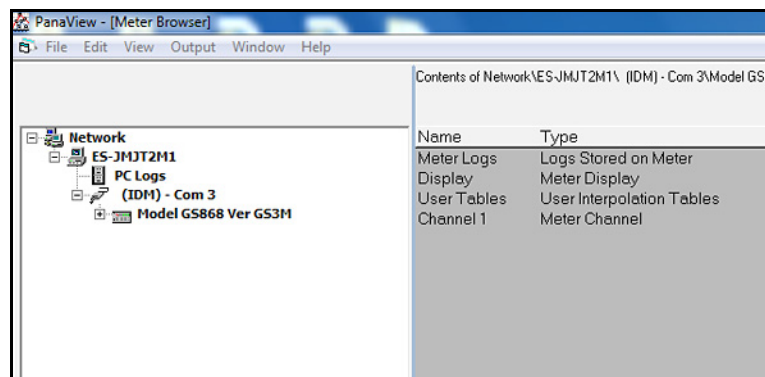

Figure 53: The Meter Branch
2. Fully expand the *network tree* and highlight the chosen meter (see Figure 53 below).